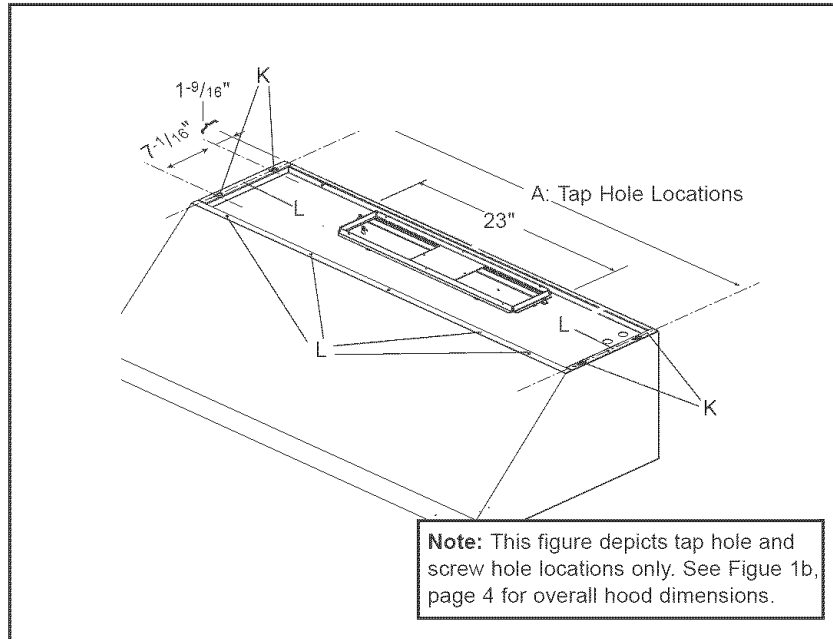

Figure 10: Tap Hole and Screw Hole Locations
Figure 10 shows the four screw holes (K) used for mounting the hood to the bottom of the cabinet.
1. In the base of the cabinet drill 1/8" tap holes (See dimension A in Figure 10 and in Table). Screw in four #10 x 1" screws (provided with hood) leaving 1/4" exposed).
5. From inside of hood, insert screws supplied. Drill through holes (use #8 x 5/8" screws supplied), one on each side and four along the front, into bottom of the cabinet. See screws holes labelled "L" in Figure 10.
Centerline Hole Dimensions for Figures 10 and 11